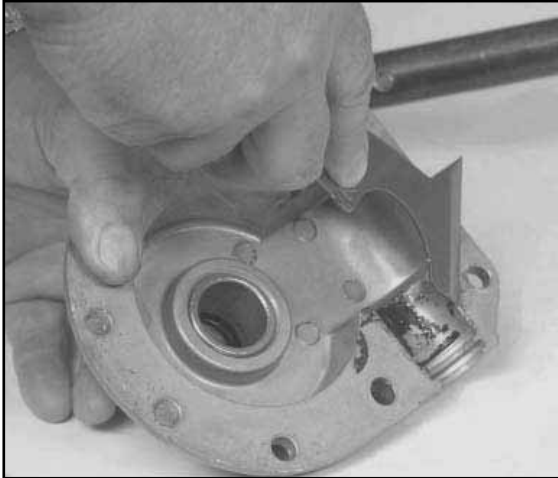

Fig 092
1. Use a wire brush or fine sandpaper to clean the auger shaft. A clean, smooth shaft will help avoid damage when installing new bushings and seals. Clean the old seal material from the case mating surfaces. Scrape, then use liquid gasket remover. (Fig. 092).